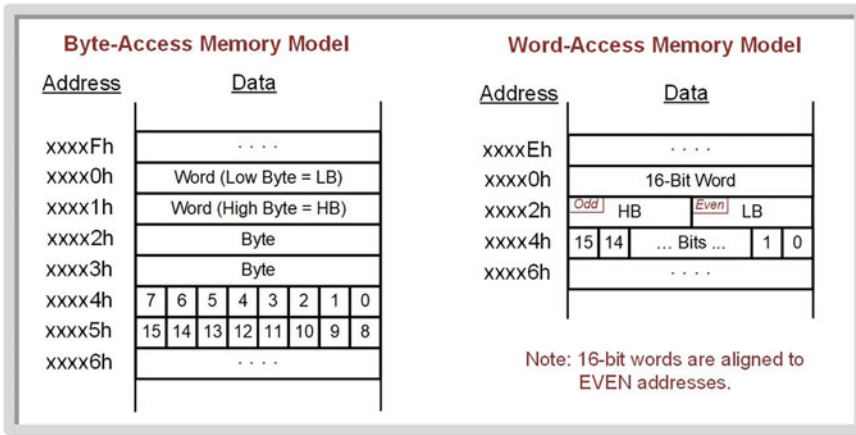

Fig. 4.2
The MSP430 supports both byte and word memory access. Bytes are located at even or odd addresses. Words are located in the ascending memory locations aligned to even addresses with the low byte (LB) at the even address, followed by the high byte (HB) at the next odd address. Figure 4.2 shows the two memory models representing the same functionality within the MSP430 memory.